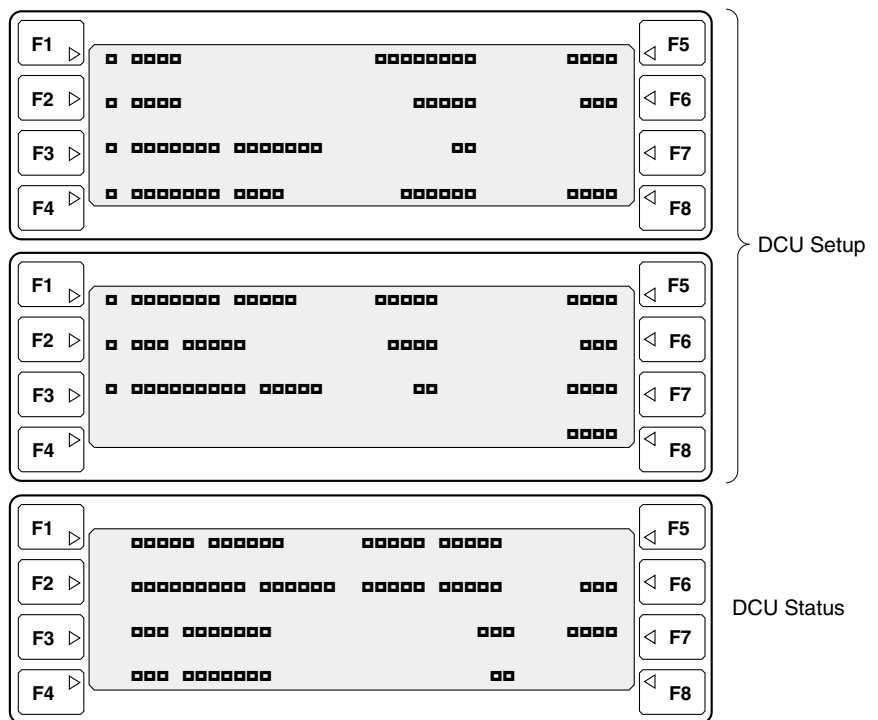

Figure 32. DCU Setup/Status Screens
- ◆ DCU setup/status – displays the DCU setup and status menus (see Figure 32 on page 39).
The DCU Setup edit menu (see Figure 32) is accessed through the Parameter edit screen. If the I/SITE LAN is at boot control, the DCU Setup edit menu is accessed directly from the banner screen.
This is the third screen displayed when DCU setup/status is selected from the Parameter edit screen (see Figure 32). This screen is for information only and can not be edited.